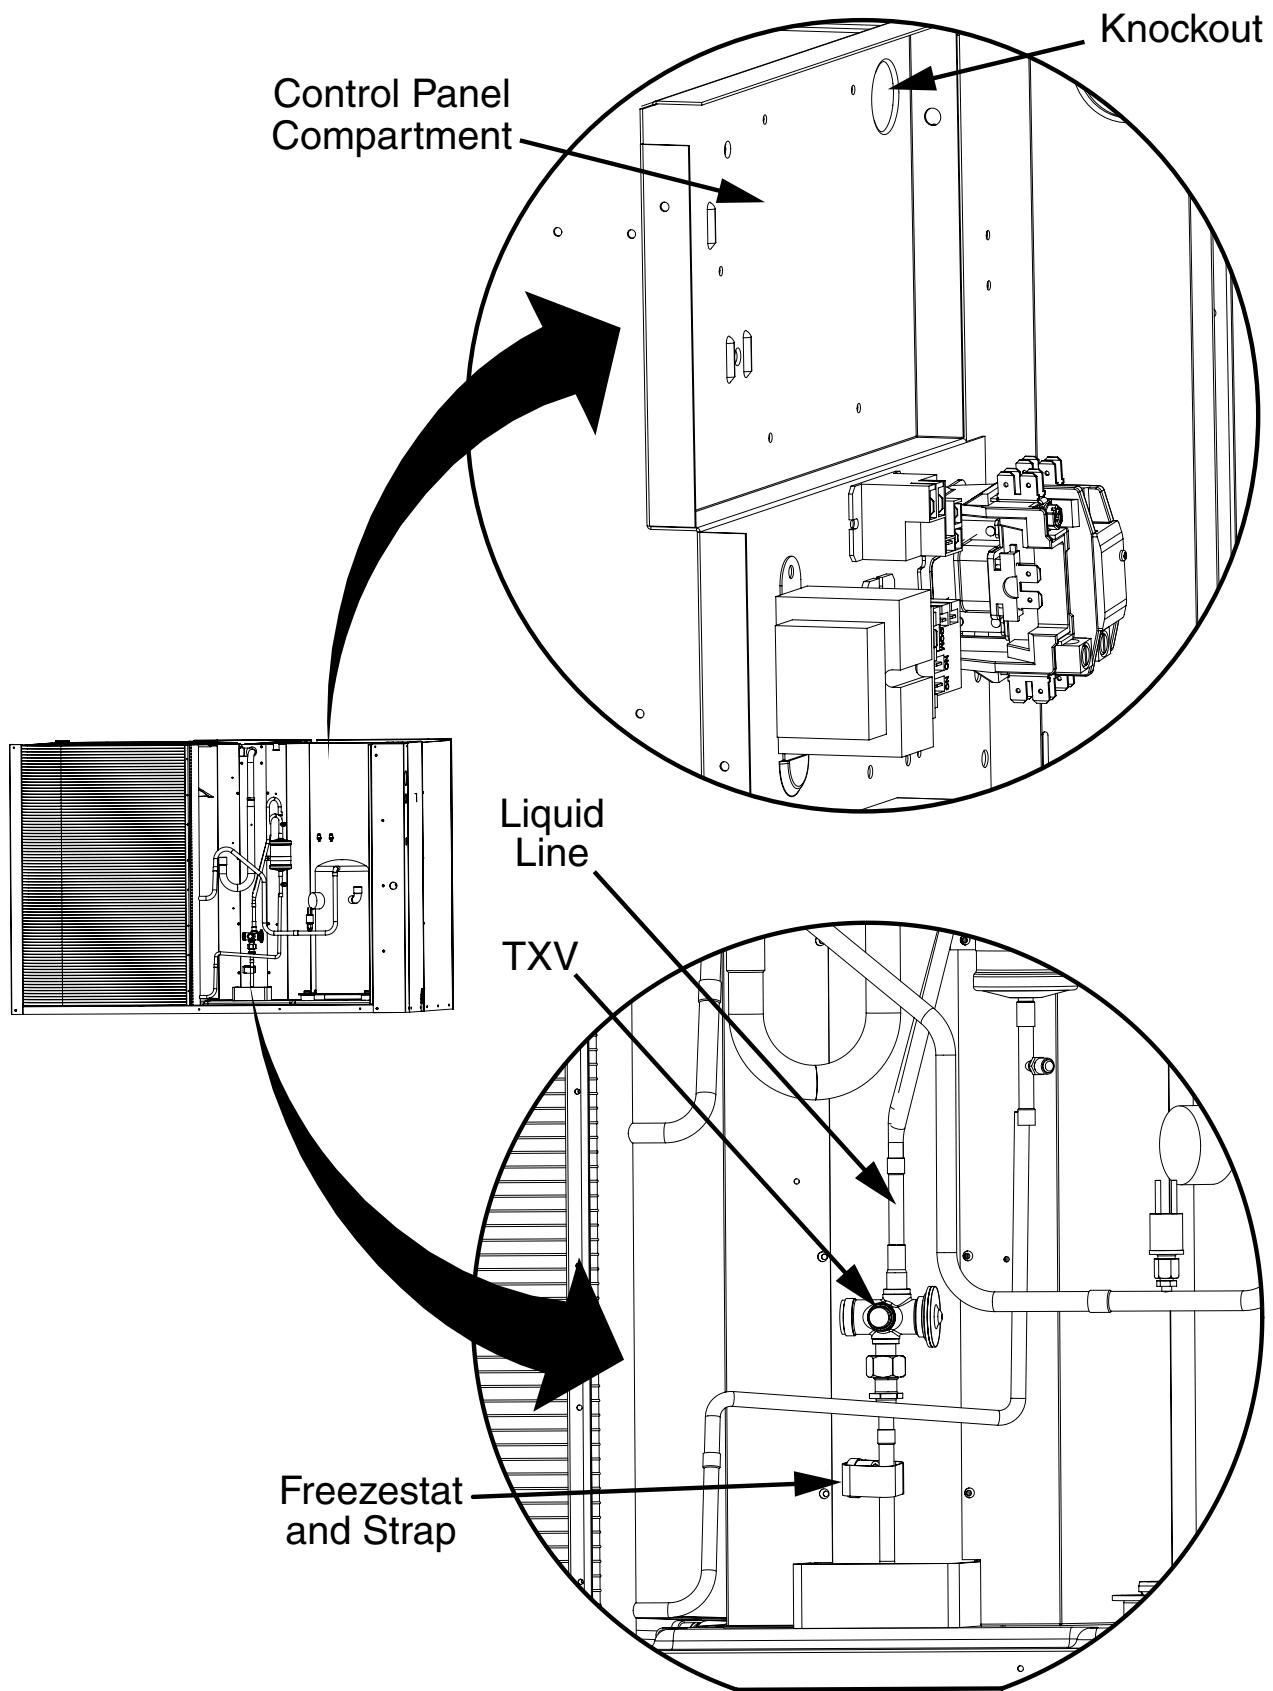

Figure 1. Freezestat Installation Location
1. Remove access panels to the evaporator and control panel as shown in Figure 1 (page 2).
2. Mount the freezestat to liquid line between expansion device (TXV, Restrictor, EXV) and evaporator coil. See Figure 1 (page 2).